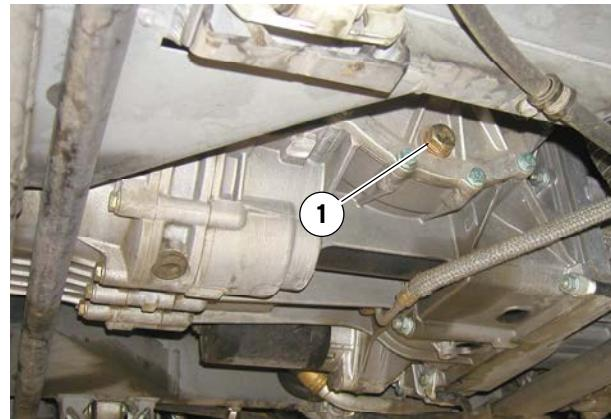

Fig. 1 Plug for checking the level of the transmission and rear differential oil
- Clean the plug (1, Fig. 1) and reassemble it; tighten to **45 Nm**.
- Using a funnel and rubber hose, top up using a moderate amount of oil at a time until the oil starts to come out of the oil checking hole (1, Fig 1).